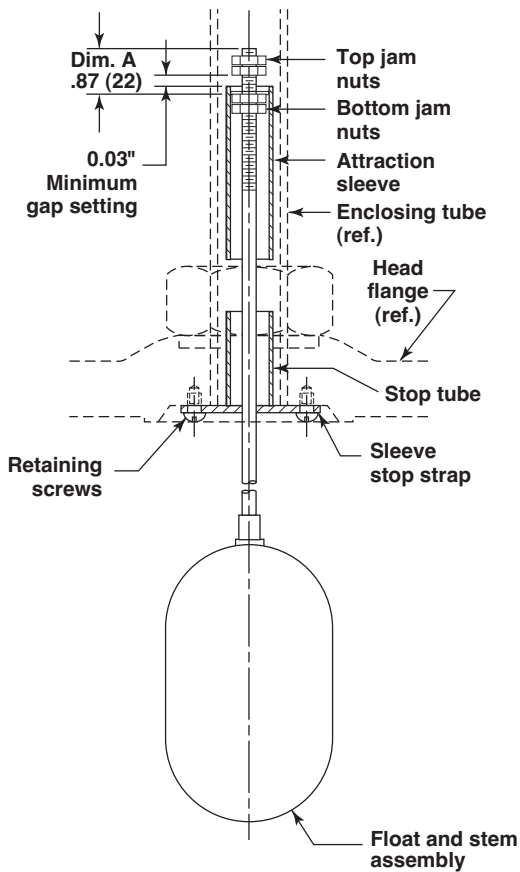

Figure 9
NOTE: New float and stem kits are supplied unassembled. Refer to **Figure 9** for standard jam nut settings (Dimension A).
- c. Set attraction sleeve per Dimension A as shown in **Figure 9**.